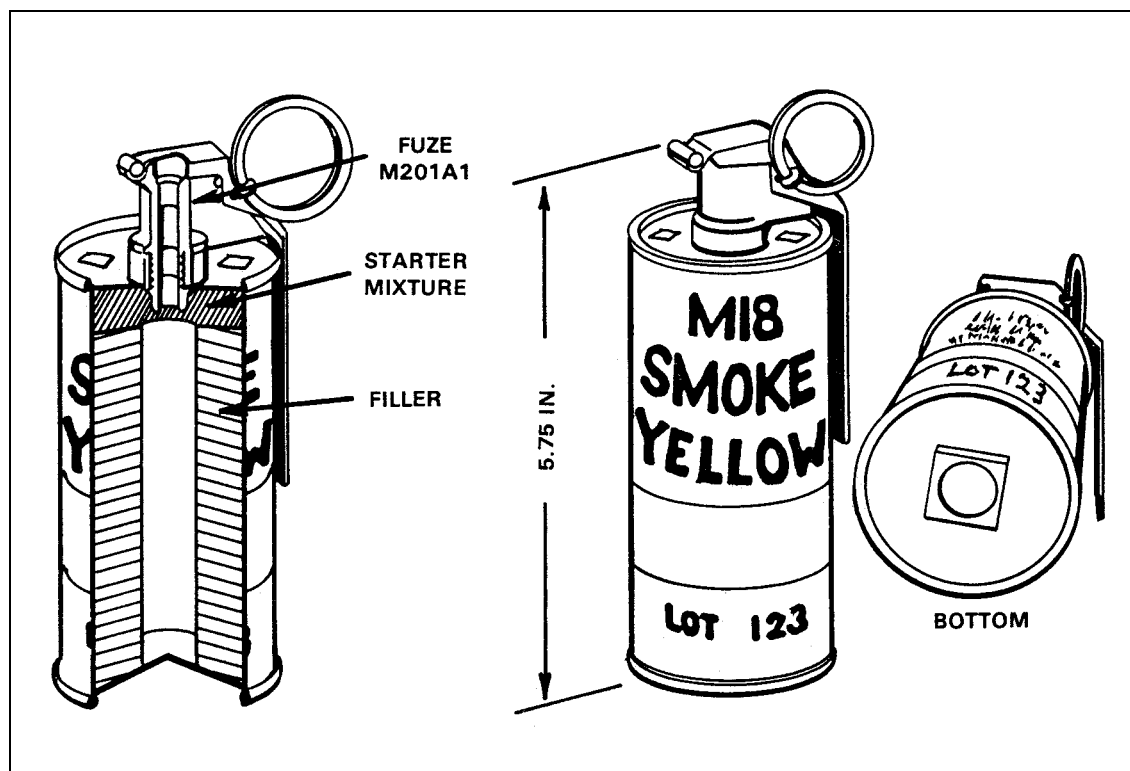

Figure 1-7. M18 colored smoke hand grenade.
a. **M18 Colored Smoke Hand Grenade.** The following is a description of the M18 colored smoke hand grenade and its components (Figure 1-7).